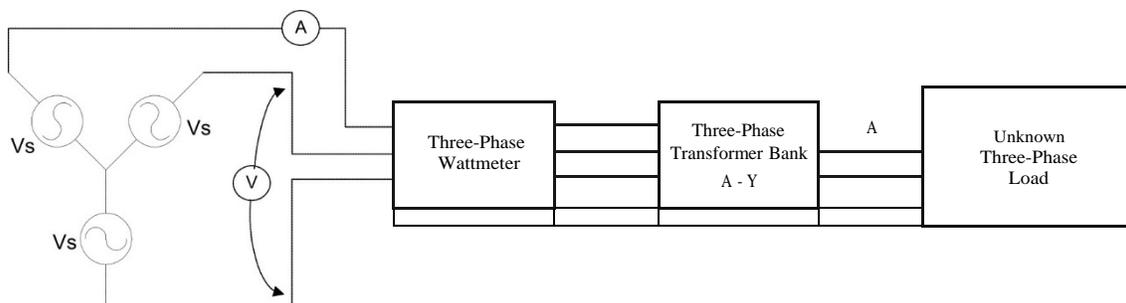

FIGURE 5.11
3) Analyze the balanced circuit shown in Figure 5.11 assuming that the transformer ratio of every single-phase transformer is 93:1 (that is, the 208 V winding is the primary and the 120 V winding is the secondary).